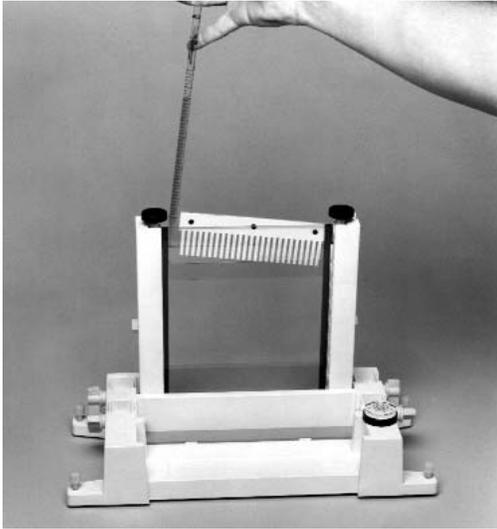

Fig. 4.27. Pouring a TTGE gel.
3. Insert a comb in the gel sandwich and tilt it so the teeth are at a slight angle. This will prevent air from being trapped under the comb teeth when pouring the gel solution (Figure 4.27).